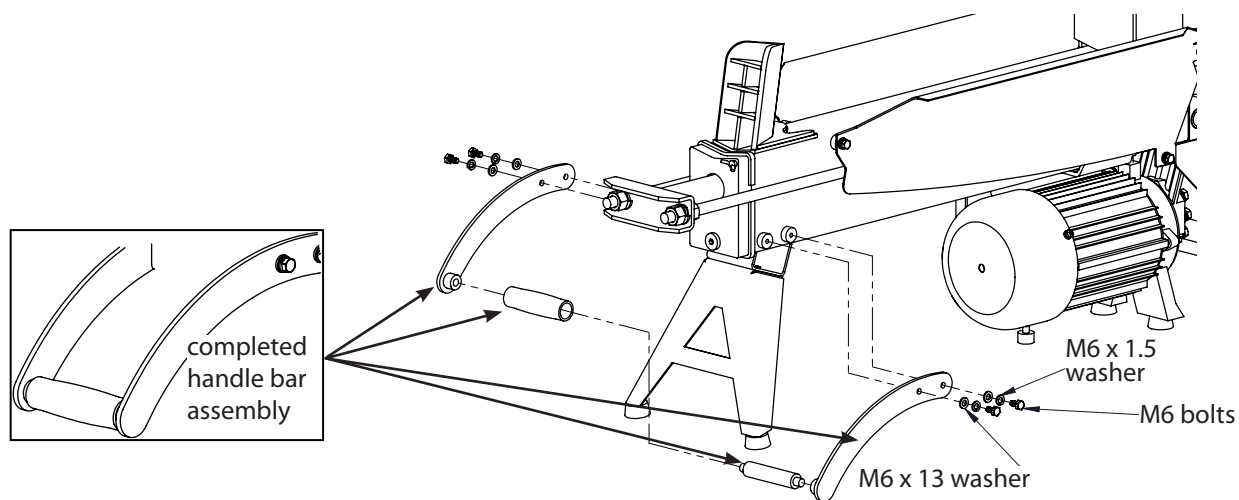

Figure 4
4. Assemble the handle bars to the handle, then attach the completed handle bar assembly to the log splitter beam using the M6 x 12 bolts, the M6 x 1.5 washer, and the M6 x 13 x 1.75 washers provided. **(SEE FIGURE 4)**